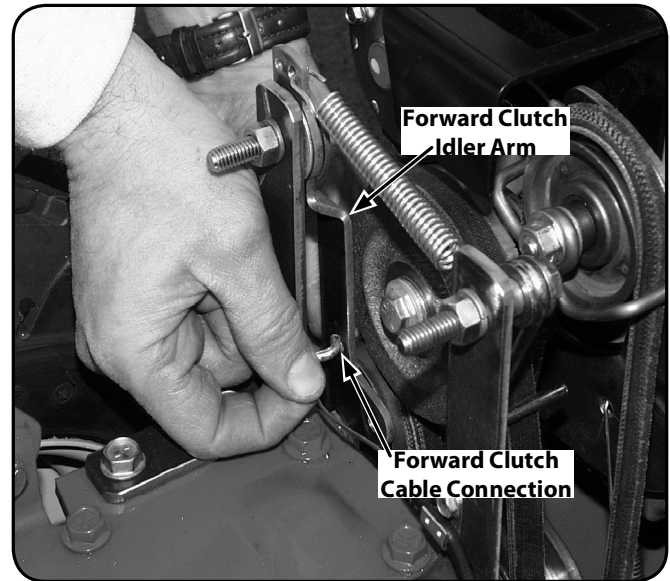

Figure 7-2
4. Disconnect the forward clutch cable from the forward clutch idler arm bracket. See Fig. 7-2. Note the hole from which you disconnect the cable. It is important that you reconnect the cable to the same hole.
- Reconnect the forward clutch cable to the correct hole in the idler arm bracket, as shown in Fig. 7-2.